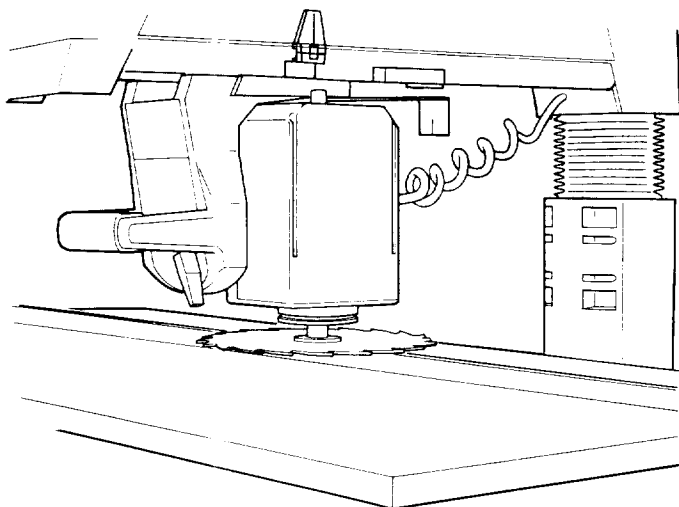

Fig. 78
3. Unlock the *bevel lock*, and turn the *motor* so that the *blade* is parallel to the *table*. (Figure 78)